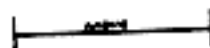

Figure 3-3. Linear Target.
(2) Linear Target. A linear target is one that is more than 200 meters but less than 600 meters long (e.g., a trench line). Targets longer than 600 meters will require additional fire support assets or be made into multiple targets. A linear target is designated in the target list (Figure 3-3) by two grids or a center grid, length, and altitude.